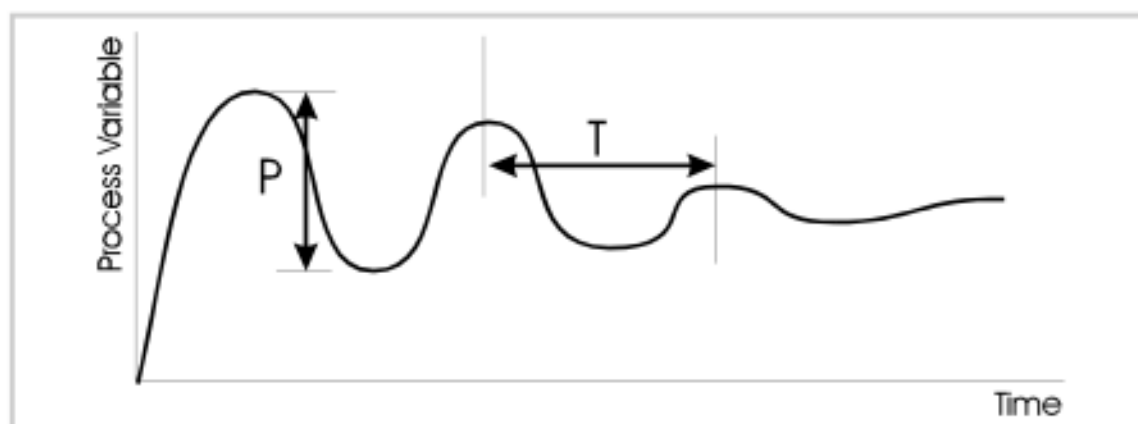

Figure 3-4 Manual Tuning Parameters (Output 1 only)
- (a) The peak-to-peak variation (**P**) of the first cycle i.e. the difference between the highest value of the first overshoot and the lowest value of the first undershoot - see Figure 3-4)
- (b) The cycle time (**T**) of this oscillation in minutes (see Figure 3-4)